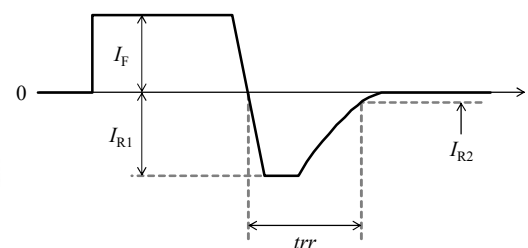

Fig.9 Recovery current waveform
- Turn SW2 ON, and apply reverse voltage from E2 to decrease forward current I_F . Then, after the reverse current I_R flows, current will almost completely stop flowing. The waveform for this condition is shown in Fig. 9.